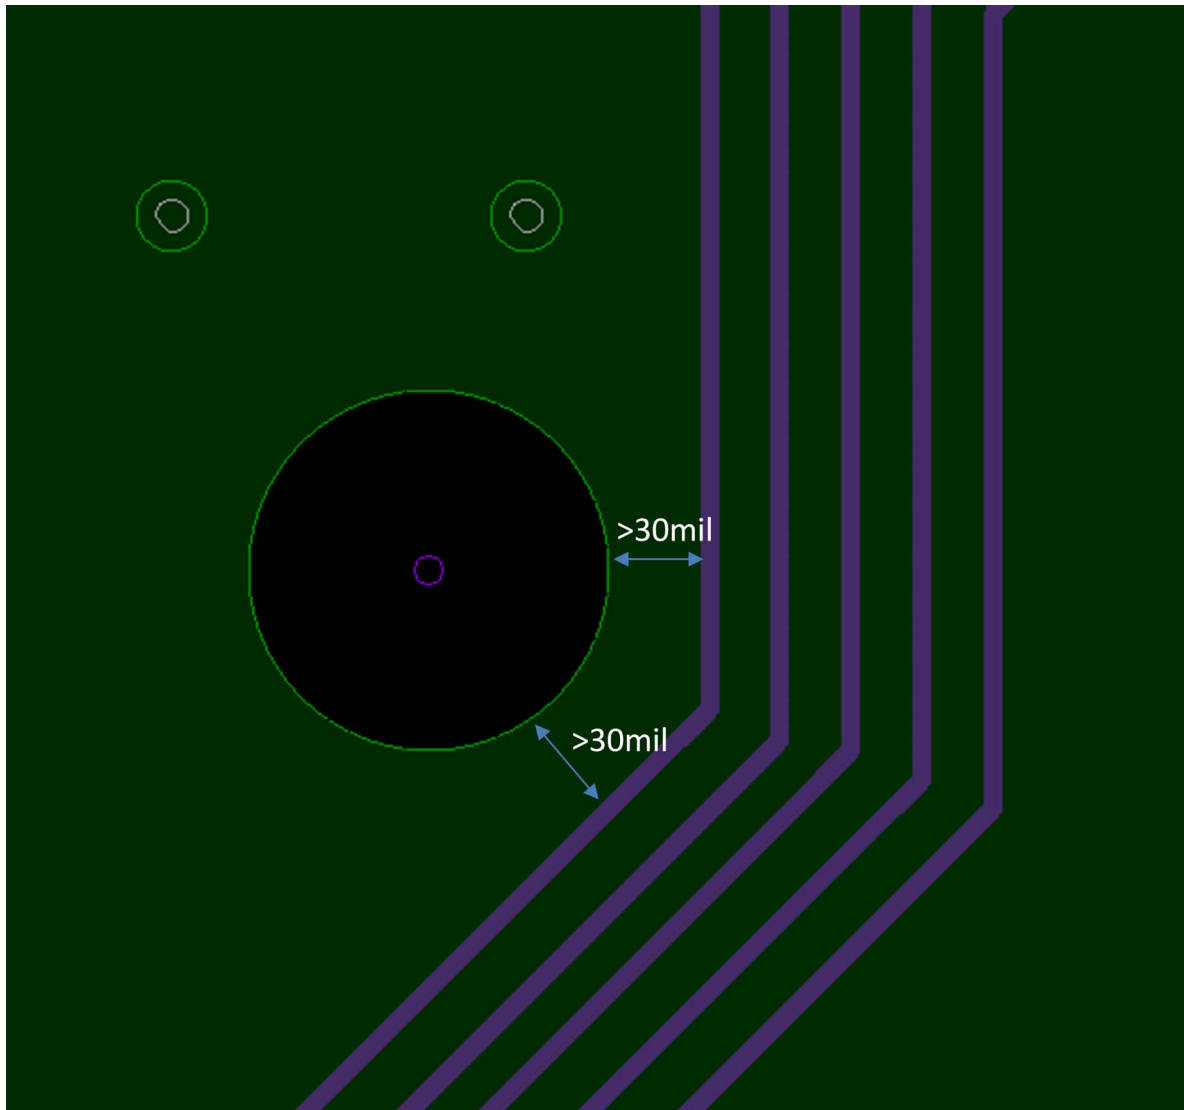

Figure 4-16: Signal Routing Over Solid Reference Plane
2. Signal lines are routed over solid reference plane. Avoid routing over void as shown in Figure 4-16.
4. Keep the routing at least 30 mils away from the reference plane and void edges with the exception of breakout region, as shown in Figure 4-16.